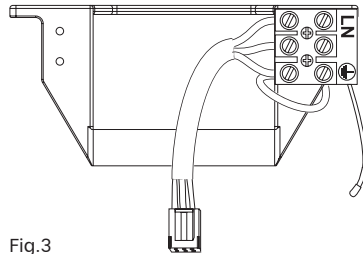

Fig.3
6. Make sure the mains power supply is turned off. Connect the power supply wiring Active, Neutral and Earth into the terminal block on hanging bracket (Fig.3). Check to see that all connections are tight, including the ground wire, and no bare wire is visible at the wire connectors except for the ground wire. Ensure that the connection is secure.